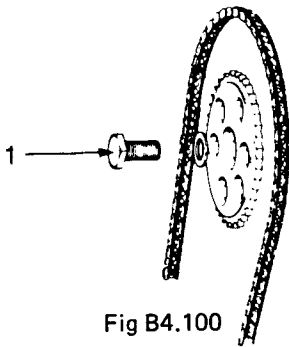

Fig B4.100
- (9) Refer to Fig B4.100. Remove the fixing (1) for the camshaft sprocket and remove the sprocket.